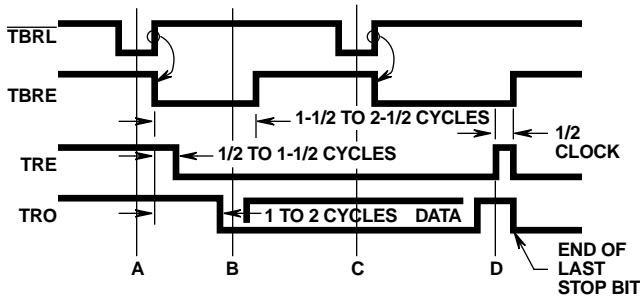

FIGURE 3. TRANSMITTER TIMING WAVEFORMS
Transmitter timing is shown in Figure 3. (A) Data is loaded into the transmitter buffer register from the inputs TBR1 through TBR8 by a logic low on the  $\overline{TBRL}$  input. Valid data must be present at least  $t_{DT}$  prior to, and  $t_{TD}$  following, the rising edge of  $\overline{TBRL}$ . If words less than 8-bits are used, only the least significant bits are used. The character is right justified into the least significant bit, TBR1. (B) The rising edge of  $\overline{TBRL}$  clears  $\overline{TBRE}$ . 1/2 to 11/2 cycles later, depending on when the  $\overline{TBRL}$  pulse occurs with respect to TRC, data is transferred to the transmitter register and  $\overline{TRE}$  is cleared.  $\overline{TBRE}$  is set to a logic High one cycle after that.